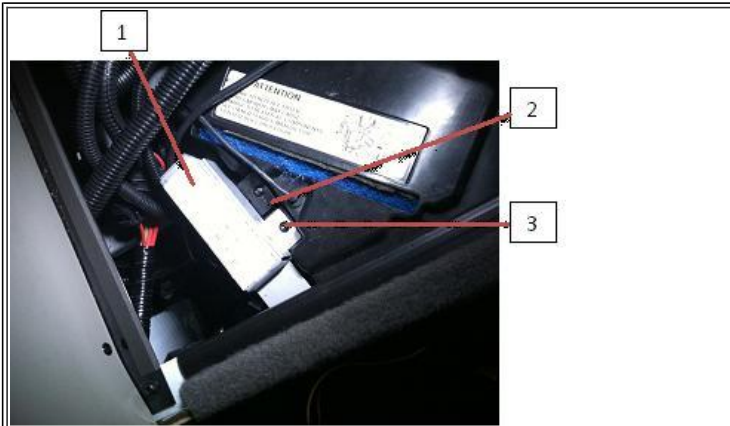

Figure 3: Power Center Cover.
9. Remove screw (Figure 3, Item 3) and cover (Figure 3, Item 1) from power center (Figure 3, Item 2).
29. Install cover (Figure 3, Item 1) on power center (Figure 3, Item 2) with screw (Figure 3, Item 3).